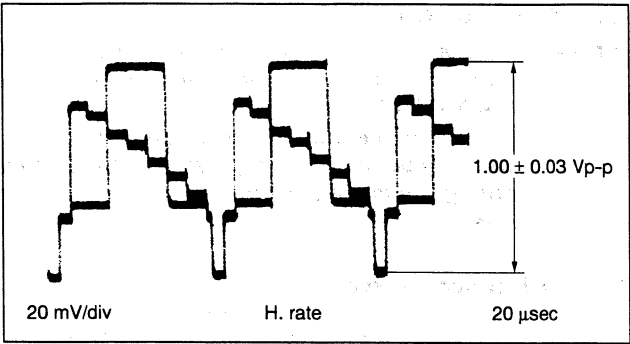

Fig. 3-3-3 EE Y level
- (1) Connect an oscilloscope to Y OUT TERMINAL.
- (2) Set EVR mode by pressing "K" button of the presetting unit more than 2 seconds.
- (3) Set "A : 11" pressing 1 digit key twice of the remote controller.
- (4) Adjust CH "▲" or "▼" button for 1.00 ± 0.03 Vp-p (See Fig. 3-3-3).
- (5) Set normal VCR mode by pressing "K" button of the pre-setting unit again so adjustment data is memorized.